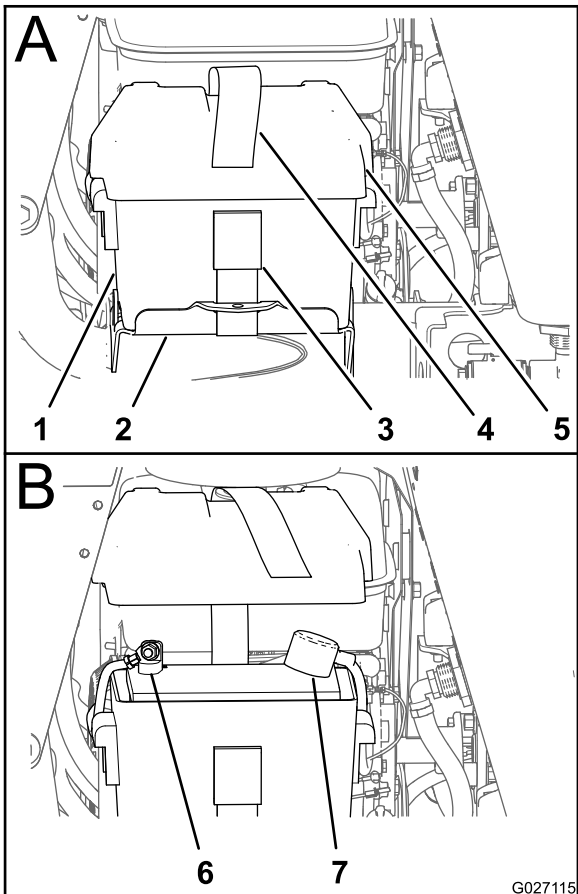

Figure 87
2. Remove the free end of the battery strap from the buckle and remove the battery cover from the battery box (Figure 87).
5. If the positive cable is also disconnected, connect the **positive (red) cable** to the positive battery terminal and slip terminal cover over the positive terminal (Figure 87).
7. Align the battery cover to the battery box and secure the cover and box to the battery tray with the battery strap (Figure 87).
2. Remove the battery cover (Figure 87); refer to step 2 of Checking the Battery Charge \(page 64\).
- Align the battery cover to the battery box and secure the cover and box to the battery tray with the battery strap (Figure 87).